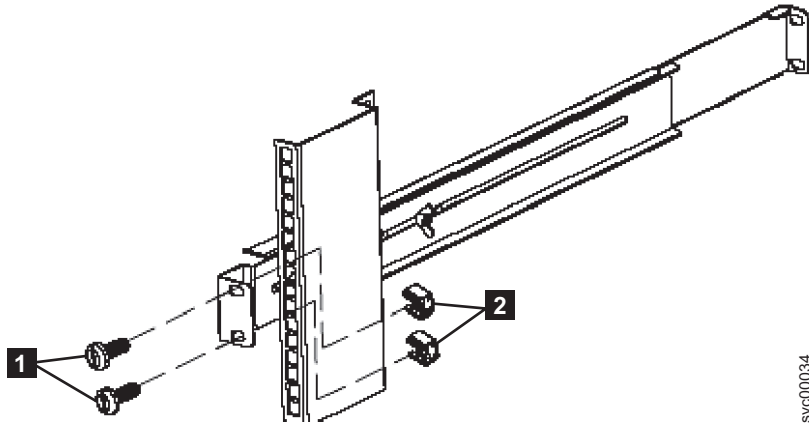

Figure 324. Removing the rear rail on the 2145 UPS-1U
5. Remove the two M6 × 10 screws from the rear side of the rail (**1** in Figure 324 on page 315) and the two clip nuts (**2**).